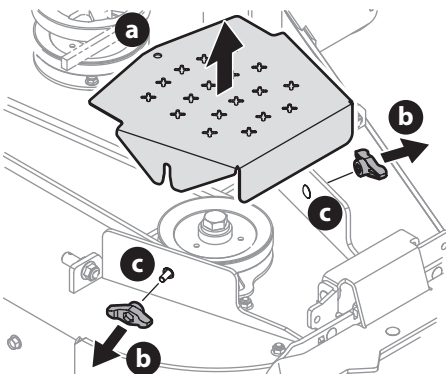

Figure 59
- To remove the belt covers (a), remove the wing knobs (b) from the carriage screws (c) securing it to the deck (Figure 59).
- The speed nut should hold the carriage screw (c) and tab bolt in place, if not re-install (Figure 59).